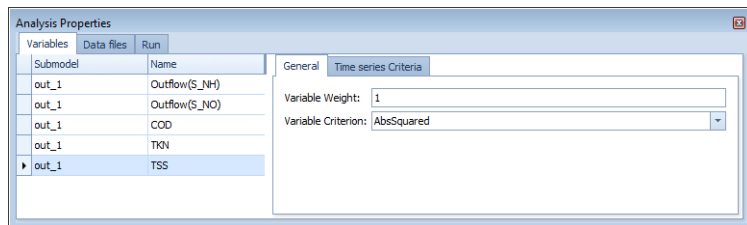

Figure 7.6 Analysis Properties dialogue and objective variables to be evaluated
- In the Block Details pane, select the variables COD, TKN, TSS, Outflow(S_NO) and Outflow(S_NH); drag and drop the selection to the Analysis Properties dialogue (Figure 7.6).